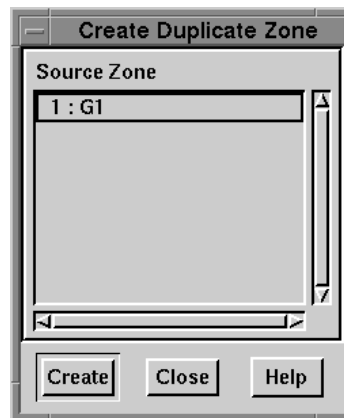

Figure 25-13. The Create Duplicate Zone dialog.
1. From the Data menu, choose Create Zone, then Duplicate. The Create Duplicate Zone dialog appears, as shown in Figure 25-13.